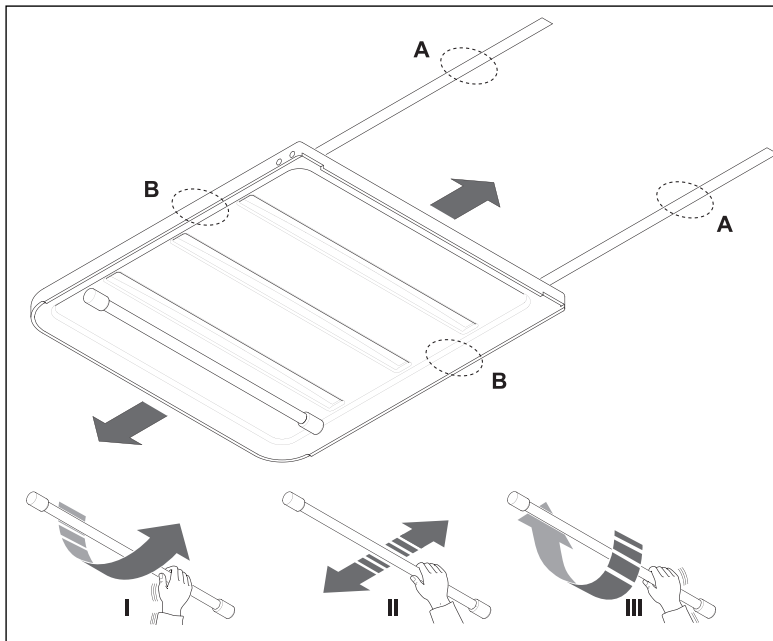
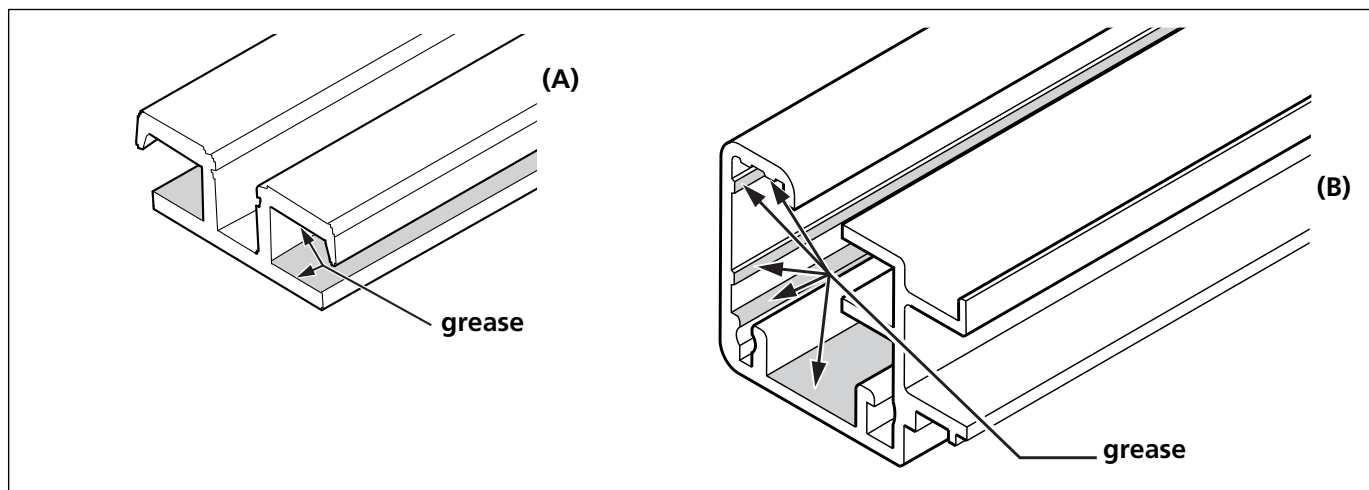

Fig. 1
Fig. 2
Rotating the release bar unlocks the tilting and sliding mechanism of the roof (I), see Fig. 1.
Apply a thin layer of grease (Isoflex® Topas L32) to the inside of the rear rails (A) and tracks (B) to ensure smooth sliding. See Fig. 1 and Fig. 2.
See Fig. 1 and Fig. 2 and paragraph "MAINTENANCE".